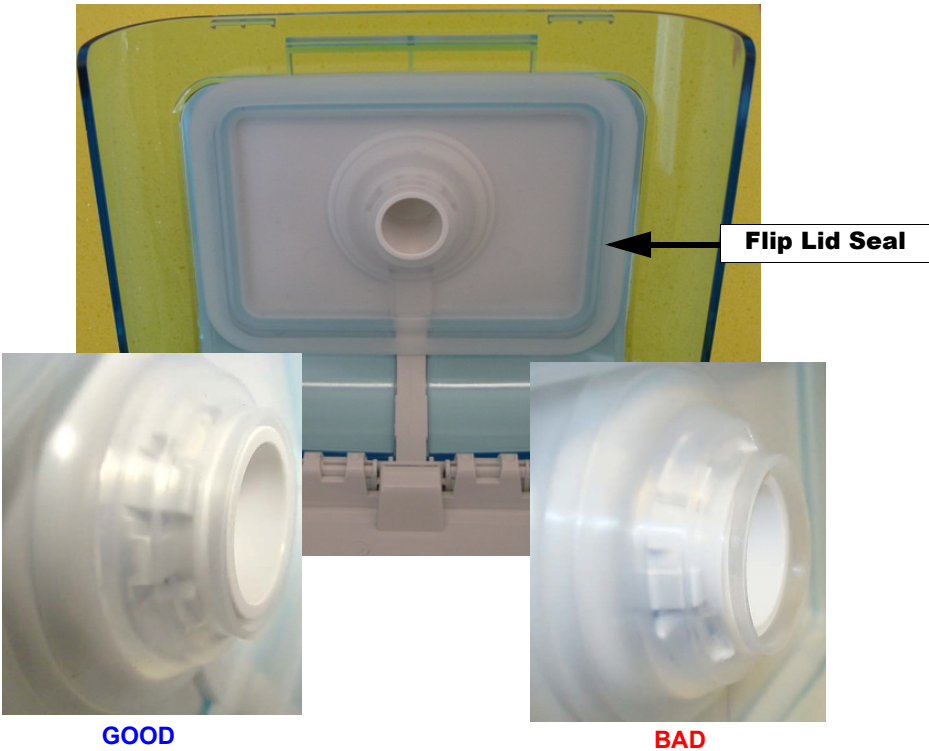

FIGURE 8-2: FLIP LID SEAL
1. Press the Seals into the place as shown in Figures 8-2 and 8-3.